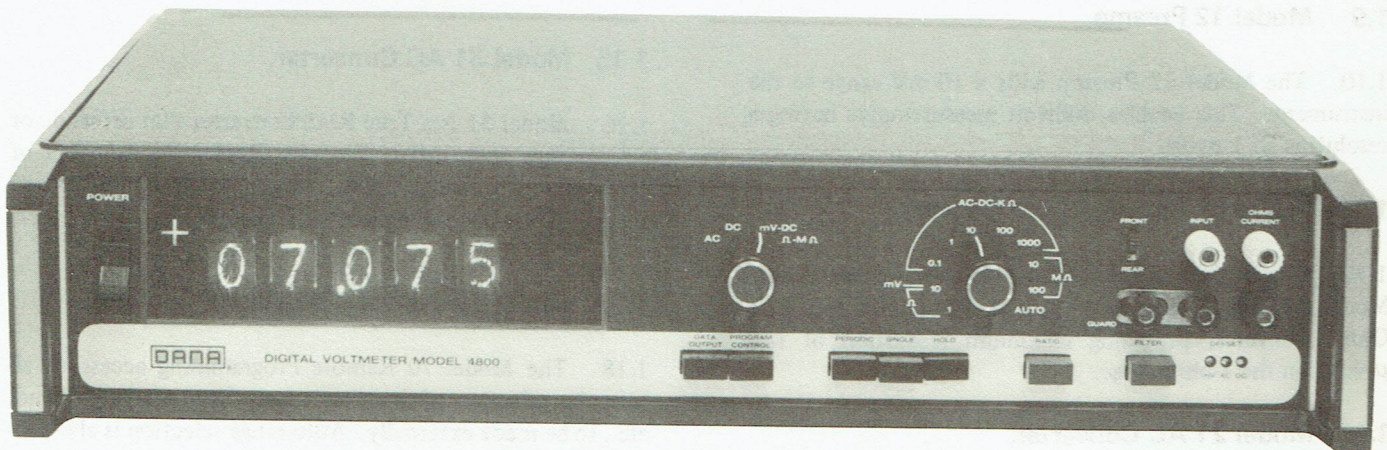

Figure 1.1 - Model 4800
1.2 The Model 4800 Digital Voltmeter (figure 1.1) is a four-digit instrument with a fifth decade providing 100% overrange. The basic instrument is equipped for dc and dc/dc ratio measurements on five ranges. With the addition of the optional Model 21 AC Converter, a-c and ac/dc ratio measurements on five ranges are available. The Model 50 Preamp/Ohms Converter, also optional, adds a 10 mV range plus ohms and ohms/dc ratio measurements on nine ranges. Complete measurement capability is tabulated in Table 1.1.